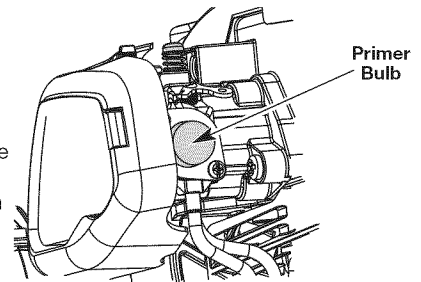

Fig. 14
3. Fully press and release the primer bulb 10 times, slowly. Some amount of fuel should be visible in the primer bulb and fuel lines (Fig. 14). If fuel can not be seen in the bulb, press and release the bulb as many times as it takes until fuel can be seen in it.